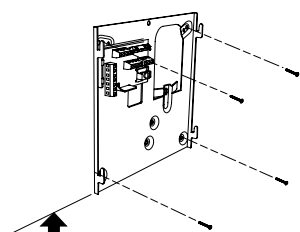

Fig. 5
- Fig. 1 - Fix the monitor mounting plate to the wall with a distance of about 1.4 m between the bottom edge and the ground (Fig. 5).